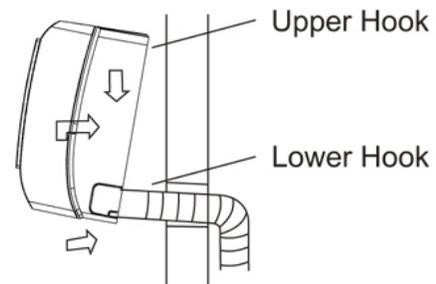
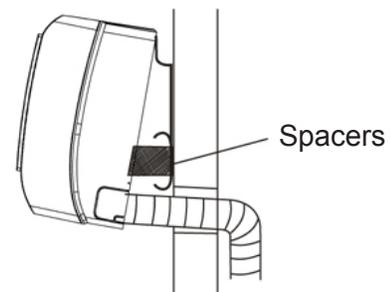

Fig. 11
Fig. 12
- Put the upper claw at the back of the indoor unit on the upper hook of the installation plate, move the indoor unit from side to side to see that it is securely fastened (see Fig.11 & Fig.12).